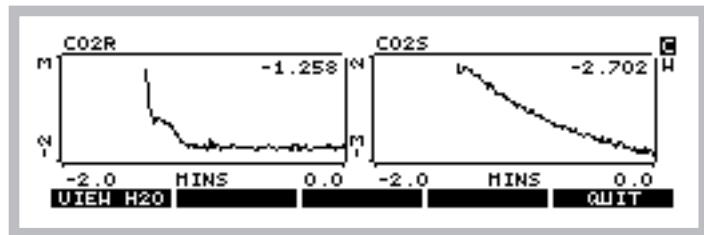

Figure 18-9. Pressing **plot (f4)** brings up strip charts for H₂O and CO₂. Switch between the two by pressing **C** and **H**, or **f1**.
Watch CO₂R_μml and CO₂S_μml (reference and sample cell CO₂ concentrations), and also their rates of change (Slp(CR) and Slp(CS)), and when they get as low as they will go, you are ready. (If you wish to see this graphically, press **Plot (f4)**. A typical plot is shown in Figure 18-9). To return to the normal text display, press **escape** or **QUIT**). It should take less than 2 minutes to get reasonably stable readings.